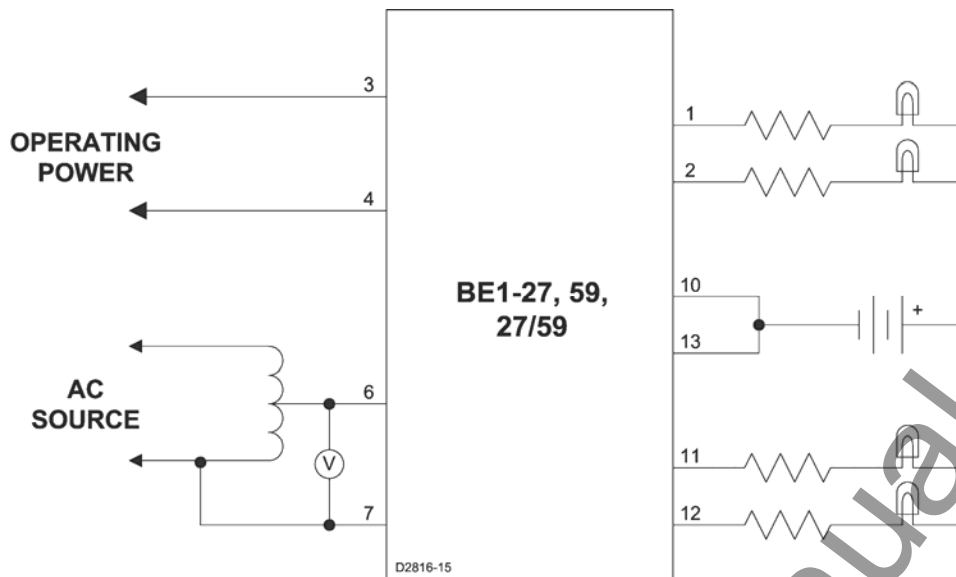

Figure 5-1. Pickup and Dropout Test Circuit Diagram
Minimum test equipment required for relay testing and adjustment is listed below. Refer to Figure 5-1 for the test setup.
- Step 1. Connect the test circuits shown in Figure 5-1 as necessary for the functions included in your relay model. See Table 5-1. Turn all undervoltage pickup controls fully CCW and all overvoltage pickup functions fully CW. Set all time delay controls to 00. Adjust T1 to nominal voltage for your sensing input range as indicated below.